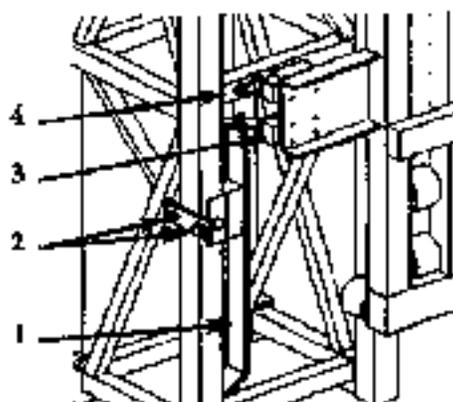

Fig. 3-100 Lower striker plate - adjustment
However, it is possible that obstacles and / or the user's wishes require a higher stopping place. Therefore, the lower striker plate (fig. 3-100, item 1) can be set at the desired height.
Lousen the clamping plate (fig. 3-100, item 2) and push the striker plate along the mast towards the desired height. The machine will stop if the lower striker plate switch (fig. 3-100, item 3) has been operated. The other switch (fig. 3-100, item 4) is the lower emergency switch. Turn the bolts finger-tight and check its operation. Then further tighten the bolts.